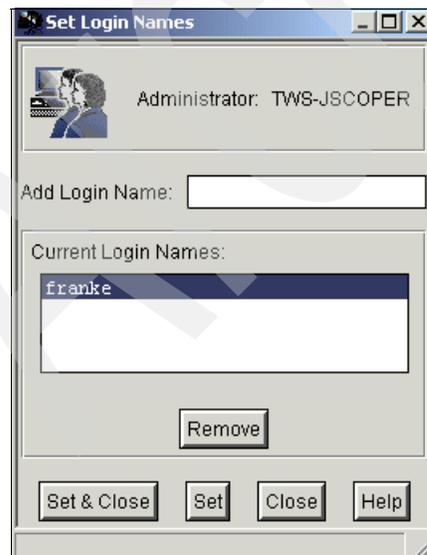

Figure 16-7 Set Login Names
4. Type in the login name and press Enter. Click **Set & Close** (Figure 16-7).